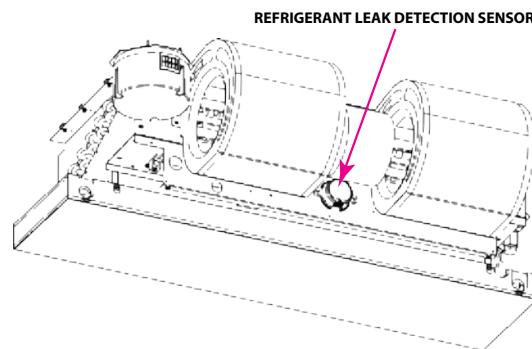

Figure 11: Refrigerant Leak Detection Sensor Location
- Refrigerant Leak Detection System** – A refrigerant sensor is located below the blower motor. Should a refrigerant leak occur in the coil itself or tubing, the sensor will detect the leak and energize the indoor blower and disable the outdoor unit compressor. The leak detection system consists of a single device that houses a refrigerant sensor and internal relays. Refer to Figure 11 for the location of the refrigerant leak sensor.
This section explains how the hydronic air handler controls operate. Refer to Figures 11 and 14 for component locations.
5. **Refrigerant Leak Detection System** – A refrigerant sensor is located below the blower motor. Should a refrigerant leak occur in the coil itself or tubing, the sensor will detect the leak and energize the indoor blower and disable the outdoor unit compressor. The leak detection system consists of a single device that houses a refrigerant sensor and internal relays. Refer to Figure 11 for the location of the refrigerant leak sensor.